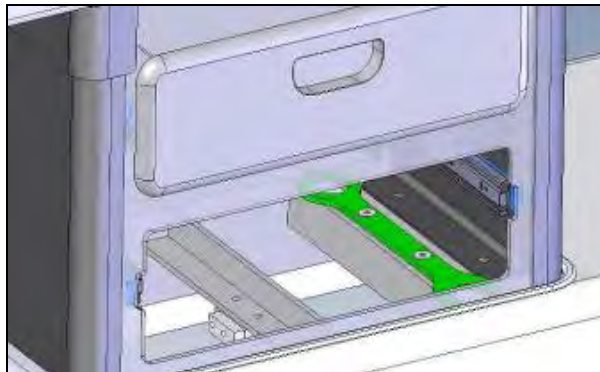

Figure 1
***Note:** Wrench 1.5" (shown in green in Figure 1) can be found inside the rear support assembly of the VG stretcher.